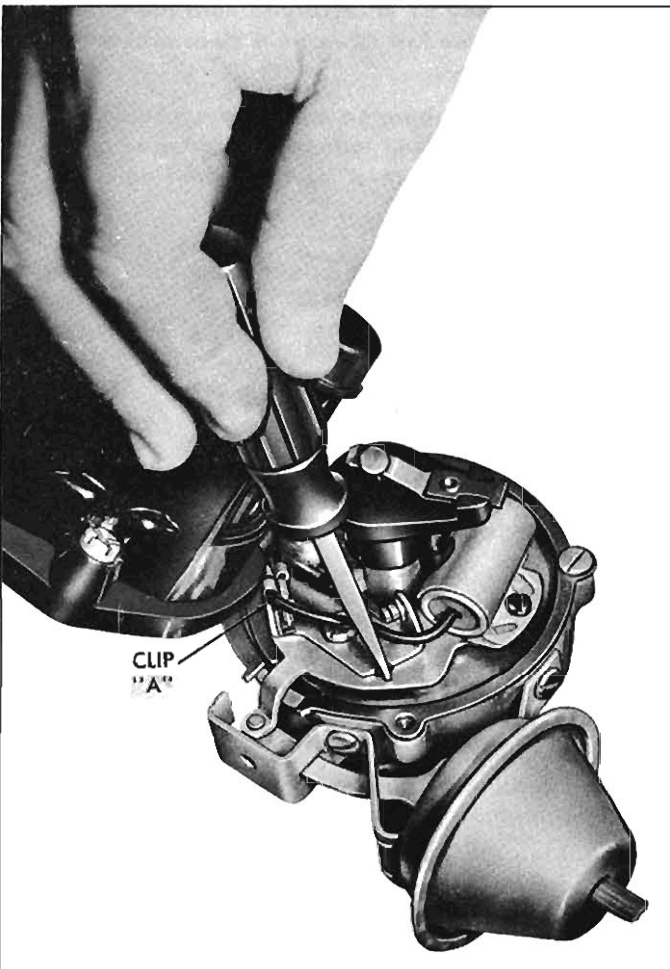

Fig. 7-1—Point Adjustment.
6. Adjust points to .019" new or .016" used (fig. 7-1) and lock stationary point. Check arm spring tension.